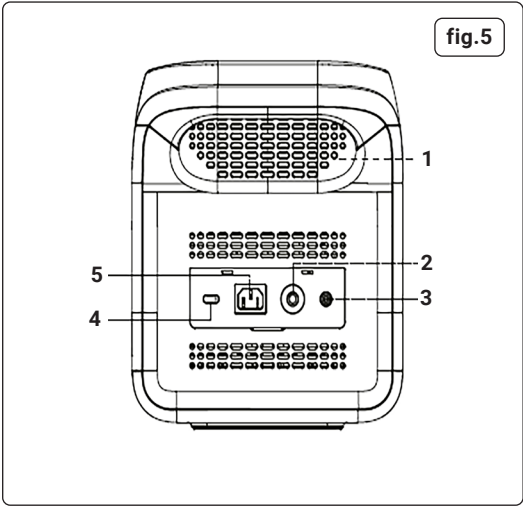

Figure 5 Key
- Quick charging technology is designed for AC charging. You can control the charging power via the AC charging speed switch (fig.5).
- The slow charge mode is on by default when power station is turned on, and can be switched to quick charge mode by the button (fig.5).
- Although unavailable in the UK, If the current is continuously higher than 20A, the charging input port will start the self-protection function, and the charging overload protection switch (fig.5) will automatically trip. Press the charge overload protection switch to restore charging after confirming no fault codes present.
• SOLAR PANEL CHARGING (fig.5)
• CHARGING POWER STATION FROM VEHICLE (fig.5)